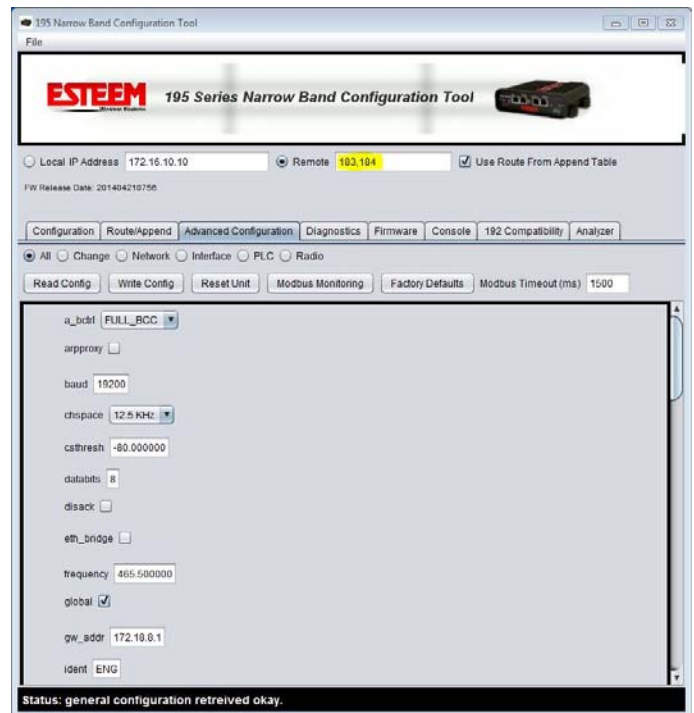

Figure 5: Advanced Configuration menu
- All - Display the status of all software commands (Figure 5)